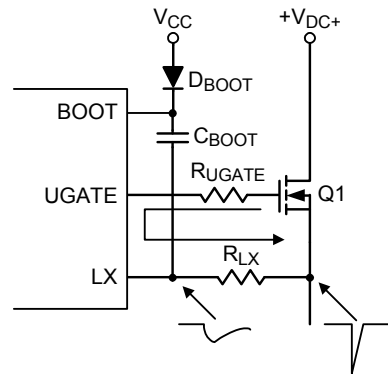

Figure 6. LX Pin Resistor
- ▶ In Figure 6, the LX pin voltage drop can be improved by adding R_{LX} (R_{LX} = 1 to 10Ω), because the dv/dt is affected by (R_{LX} + R_{UGATE}).